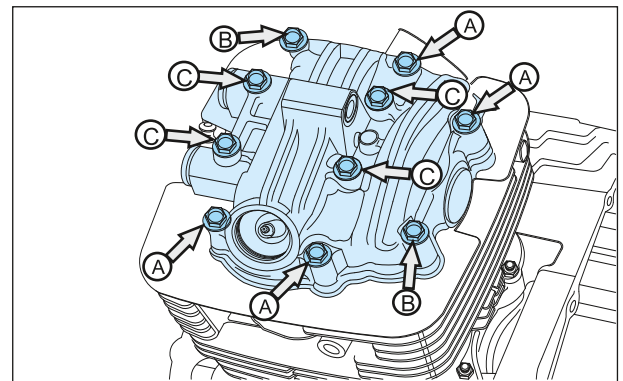

Fig. 3.157
- Assemble and tighten 4 nos. Hexagonal flange bolt (M6x55) along with copper washer to the cover cylinder head (C). (Fig. 3.157)
- Assemble and tighten 2 nos. Hexagonal flange bolt (M6x45) to the cover cylinder head. (B) (Fig. 3.157)
- Assemble and tighten the 4 nos. Hexagonal flange bolt (M6x35) to the cover cylinder head. (A) (Fig. 3.157)